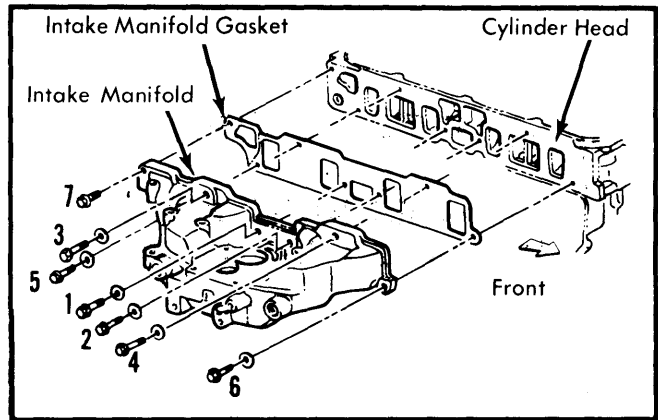

Fig. 2 Intake Manifold Tightening Sequence (VIN V & 9)
2) Torque manifold-to-cylinder head bolts following torque sequence. See Fig. 2. Reverse removal procedure to complete installation.